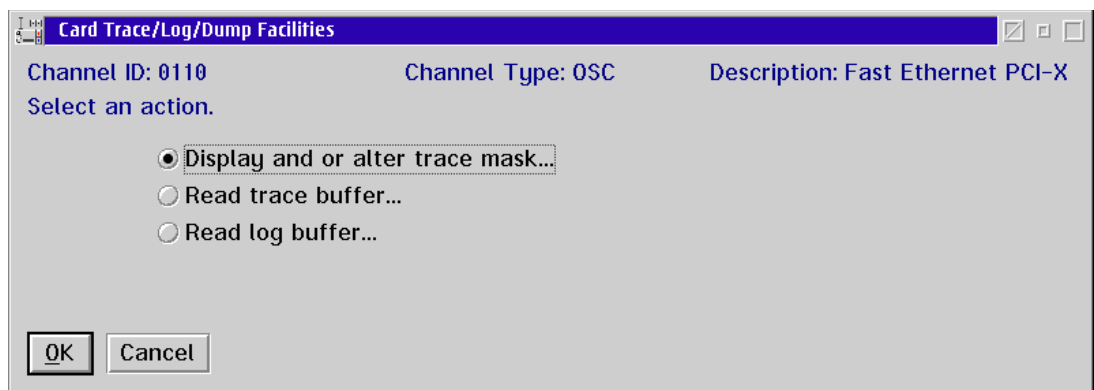

Figure 4-14 Card Trace/Log/Dump Facilities
2. Starting at the Standard Channel Advanced Facilities panel, select **Card Trace/Log/Dump Facilities**, and click **OK**. The Card Trace/Log/Dump Facilities panel is displayed (see Figure 4-14).